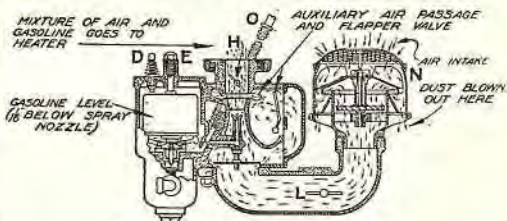

Fig. 56B. Operation of carburetor.
Running: Having started the engine, the carburetor functions as in Fig. 56B. Gasoline is drawn from the float chamber past needle valve (O), through a short passage to the spray nozzle shown directly below throttle valve (H).